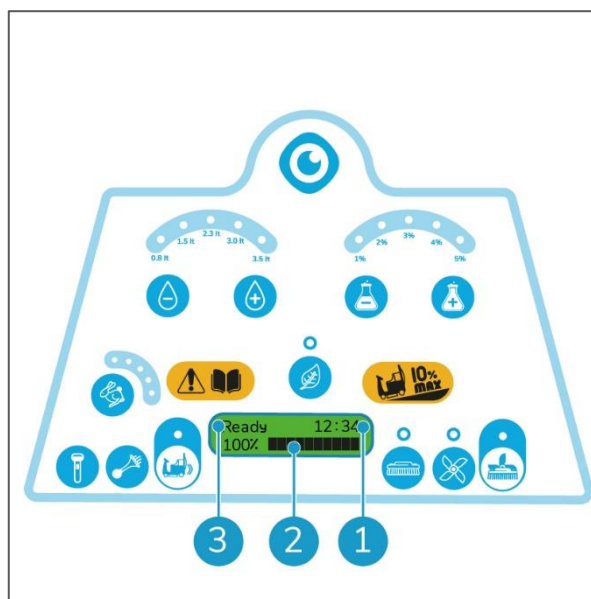

Figure 5
- Indicates operation time in hours and minutes (Figure 5, pos 1).
- Indicates battery discharging level (Figure 5, pos 2).
- Indicate mode: Ready for manual mode or Automatic for automatic mode (Figure 5, pos 3).